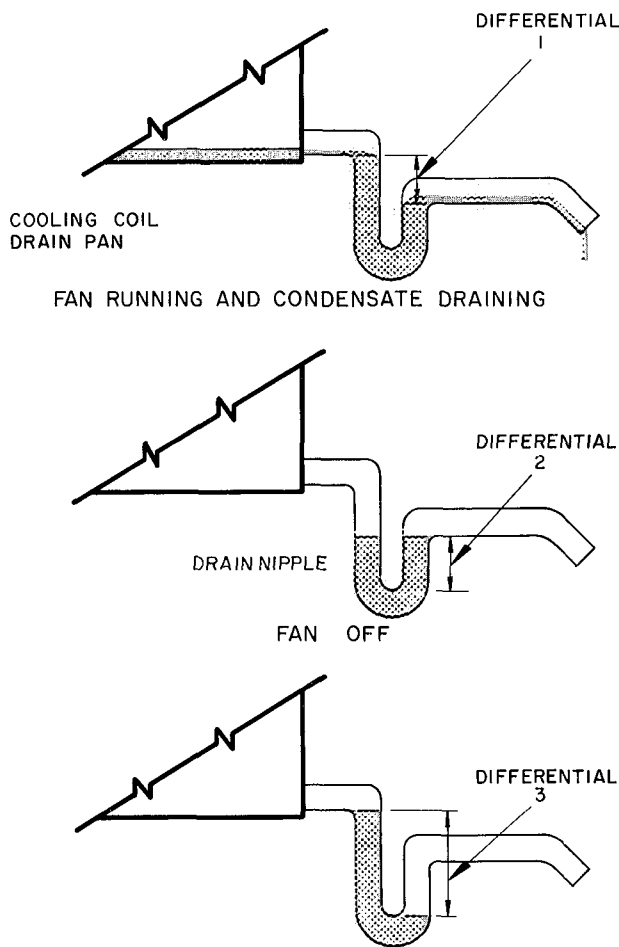

Fig. 17 — Condensate Drain
Step 12 - Install Unit Drain Line — Install a trapped condensate drain line at unit drain connection (Fig. 12A and 12B). The drain requires standard pipe connected to condensate pan nipple as shown in Table 5. Figure 17 shows proper trap design.
Referring to Fig. 17, Differential 1 must be equal to or larger than negative static pressure at design operating conditions. Store enough water in trap to prevent losing seal (Differential 2). This differential must be equal to or larger than one-half the maximum negative static pressure. When the fan starts, Differential 3 is equal to the maximum negative static pressure.